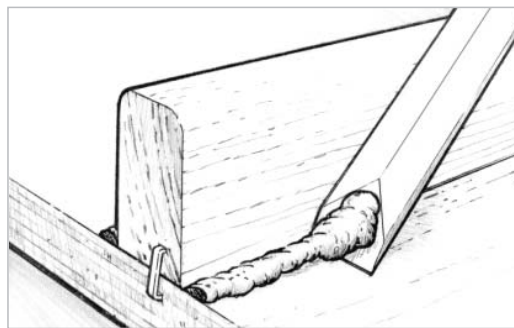

Figure 9-11 Remove excess epoxy before it begins to gel. A sharpened mixing stick makes an excellent cleanup tool.
4. Remove or shape excess adhesive that squeezes out of the joint as soon as the joint is secured with clamps. A wooden mixing stick with one end sanded to a chisel edge is an ideal tool for removing the excess (*Figure 9-11*).